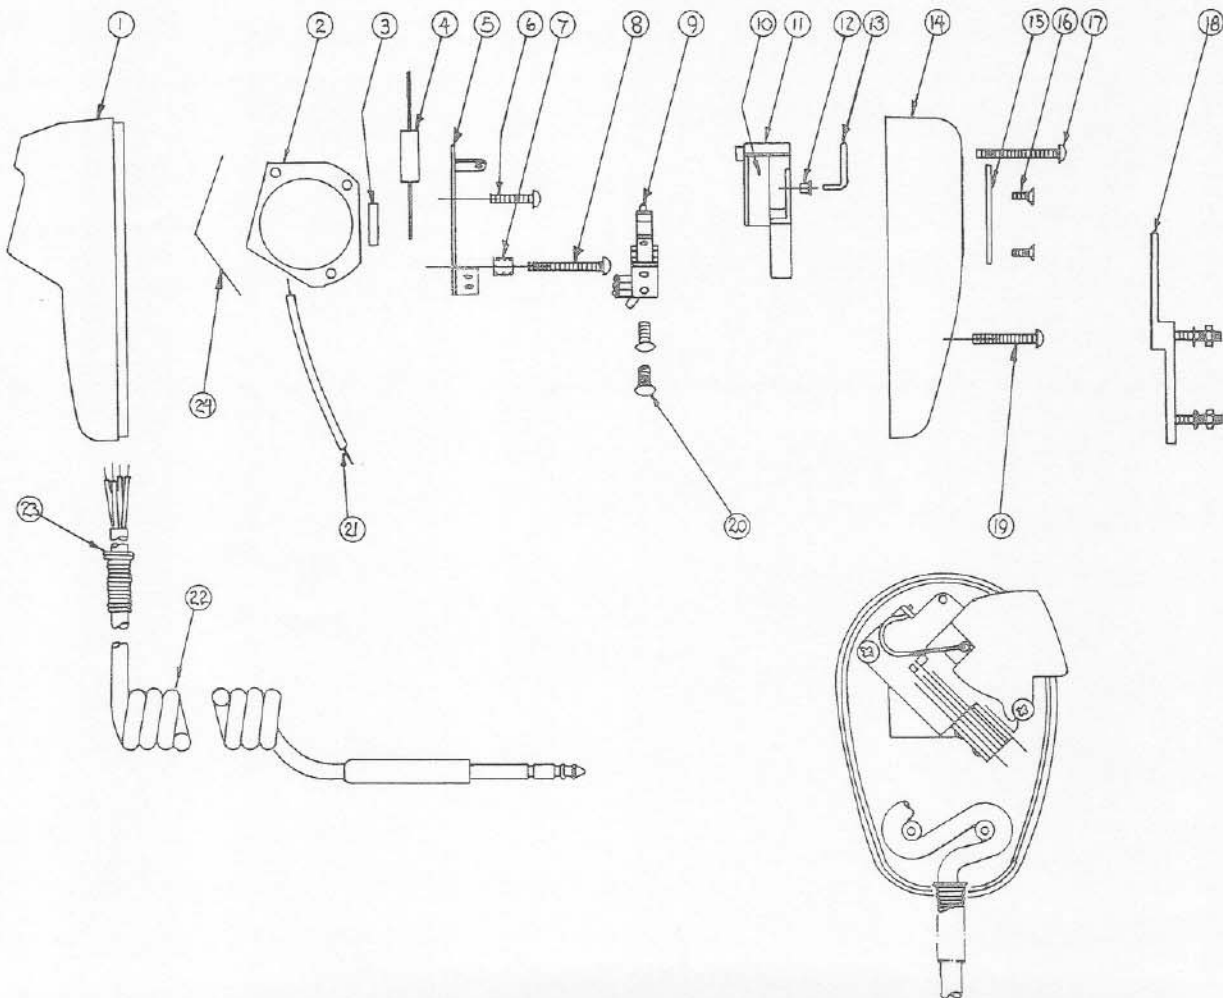

FIGURE 1 — Assembly Drawing
2. Disassembly. (See Figure 1)
- b. Do not disassemble the head and capacitor subassembly (2) to (6) unless capacitor or head must be replaced. If this is necessary proceed as indicated in steps c. and d.
- c. Remove head by first removing screws (Items 6 & 8) and switch bracket (Item 5). See Figure 1.
- e. Do not unsolder leads to switch unless it is necessary to replace switch assembly or cable (10).